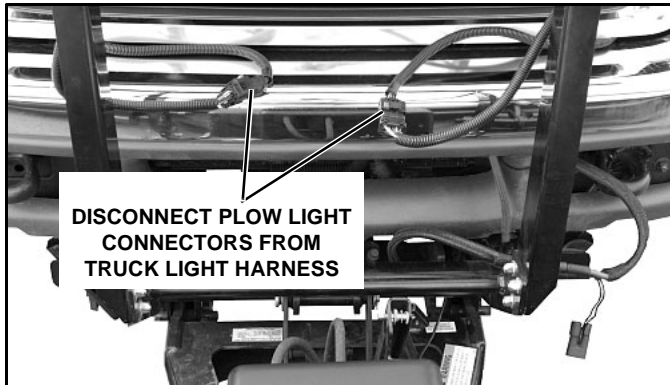

Figure 1-28
2. Disconnect the plow light connectors from the truck harness connectors. (See Figure 1-28).